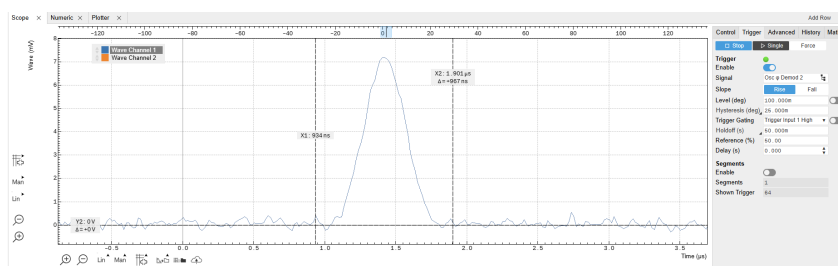
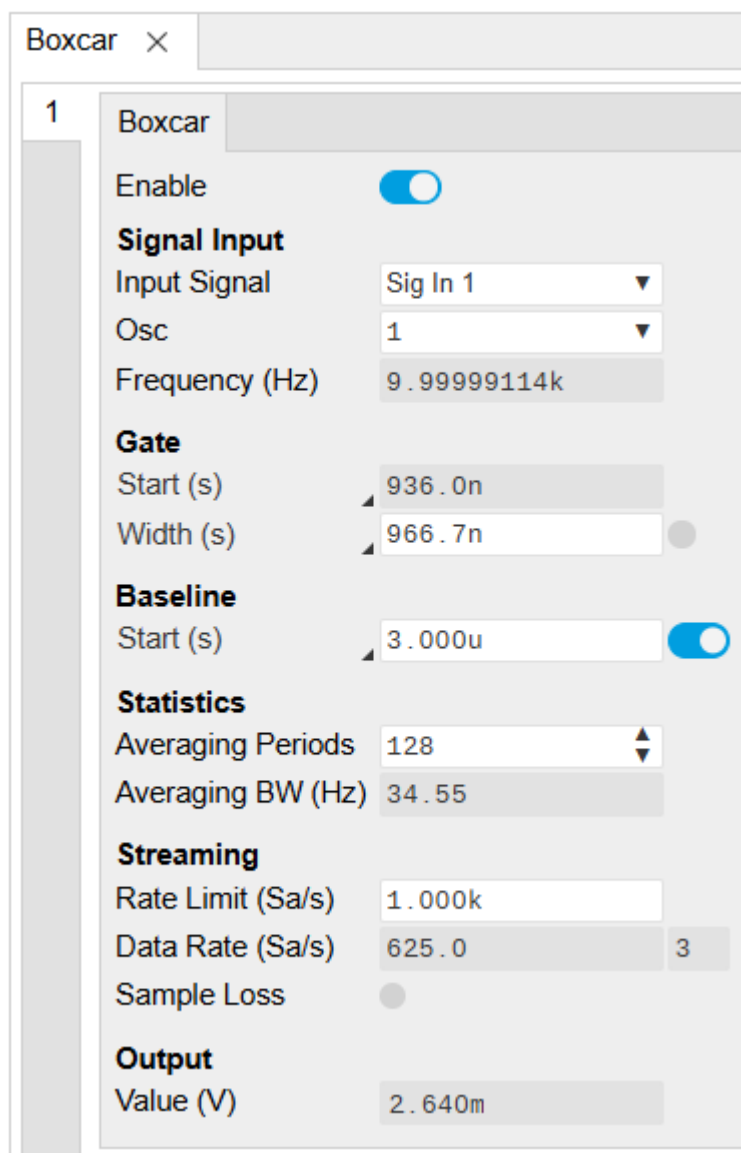

Figure 4.60: Zoom-in of a scope shot with a single pulse
Figure 4.61: Boxcar tab configuration with the Scope
The LabOne Scope on the MFLI can be used to observe the generated pulsed waveform. Connect the output of the AWG directly to Voltage Input of the MFLI instrument. The Scope settings in LabOne are given in the table below and shown in Figure 4.60 on page 95 . Additionally, the AWG provides a TTL synchronization signal to be connected to one of the Trigger Inputs (back panel). This trigger signal is used as an external reference to lock to the repetition rate of the pulse train.
On the Scope plotting area, one should now be able to observe a waveform similar to the one in Figure 4.60 on page 95. The Scope is set to self trigger at every cycle of the oscillator phase. Use the horizontal zoom to focus on a single period. This can be done by rolling the mouse wheel forward to zoom in on the horizontal axis. To zoom in on the vertical axis, press down the Shift key and roll the mouse wheel. One can also recenter the waveform by pressing on the left mouse button and dragging the Scope plot area. In cases where the noise doesn't allow to resolve the pulses properly, the averaging function of the Scope can be used to improve the sharpness.
Figure 4.61 on page 96 shows the LabOne Boxcar tab. Either the Current Input or the Voltage Input can be selected as the input signal; the boxcar averager integrates and normalizes a section of the input signal and generates an output signal in units of volt (V) or ampere (A). In this example, we will use the Voltage Input. The amplitude value of each sample within the integration window is summed and output from the Adder after each period. This sum is then normalized by the Boxcar window's width. The integration window must be set manually in the Start (deg or s) and Width (deg or s) fields. Additionally, a reference oscillator must be chosen; here, we utilize the oscillator 1 locked to the external reference. The position and width of the integration window can be manually set. To determine the desired values, two possible workflows can be employed: using the Scope or the Sweeper. To further increase the SNR, a moving average filter can be applied to the boxcar output. To do so, one can increase the number of averaging periods. The number of averaging periods indicates how many subsequent periods the integrated values are averaged before outputting the final result. If the averaging periods are set to 1, each consecutive integrated value is output. Increasing the number averaged periods has the effect of improving the SNR at the cost of measurement time, since a longer time is necessary before the result is calculated - similar to the compromise between measurement speed and noise rejection when setting a certain low-pass filter bandwidth in a lock-in measurement. A certain number of averaging period results in an equivalent averaging bandwidth determined by the repetition rate and the number-of-averaging periods (for additional details please refer to the Principle of Boxcar Averaging white paper). To
The configuration of the Boxcar averager with the Scope can be very convenient, especially in cases where the amplitude of the pulse train is well above the noise floor. For the configuration of the Start and Width with the Scope, we set the units to seconds (s) in the boxcar tab. We then record a Scope shot with the Scope tab, making sure that the scope is set to Trigger to the correct Oscillator phase, in our case Osc  $\phi$  Demod 2. By zooming in around the pulse closest to the time 0 of the Scope time axis in the positive times region, we can then move the vertical cursors and set them around the pulse, copying the displayed values to the Start (first cursor) and Width ( $\Delta$ ) settings in the Boxcar Tab. This setup is shown in Figure 4.60 on page 95, with the corresponding boxcar settings in Figure 4.61 on page 96. By enabling the Boxcar, the data is now streamed to the computer.